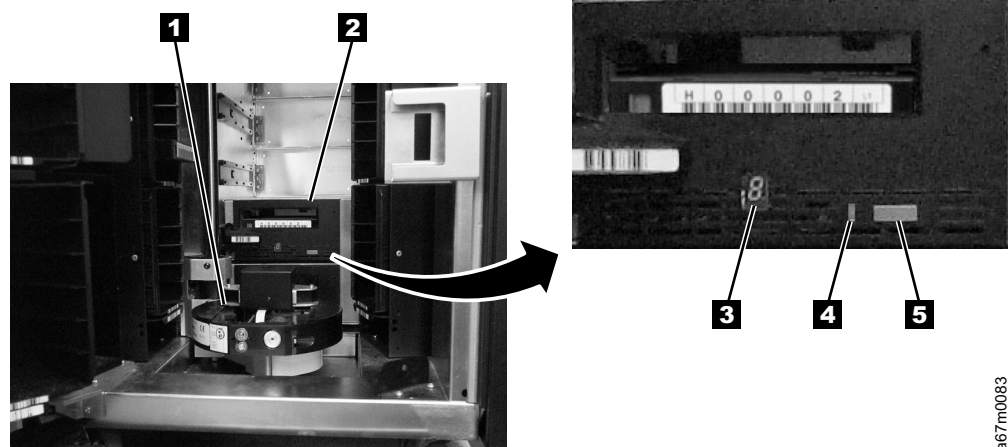

Figure 390. Resetting the tape drive
3. Locate the drive that contains the stuck tape cartridge. If the picker (**1** in Figure 390) is in front of the drive **2** , gently lift and hold the picker out of the way.